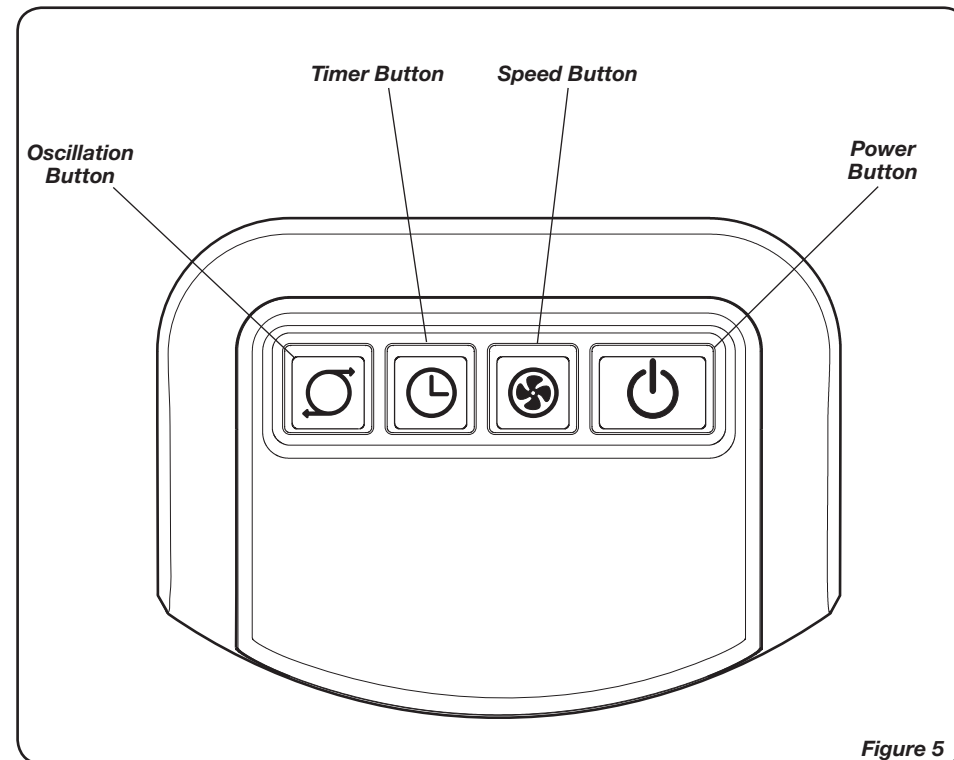
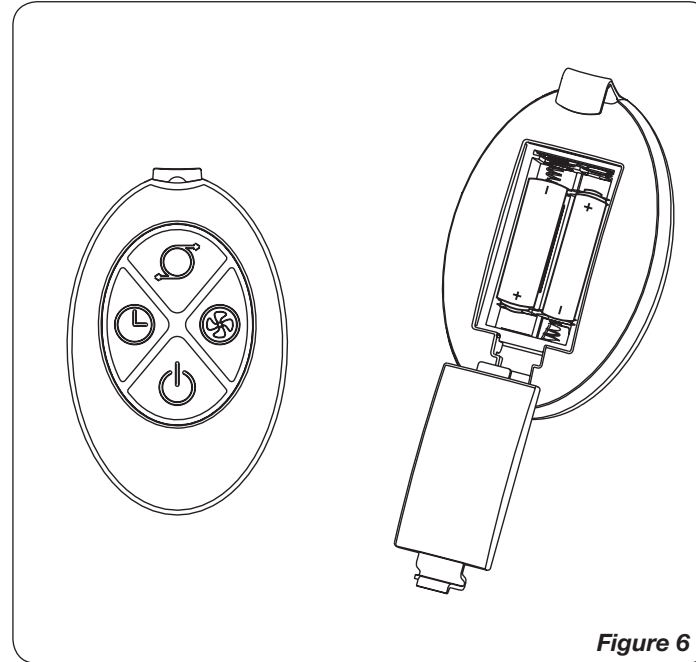

Figure 5
Figure 6
OPERATION (Figures 5 and 6)
This Fan may be operated by the Manual Controls located on top of the unit (as shown in **Figure 5**) or by the Remote Control (shown in **Figure 6**).
REMOTE CONTROL (Figures 6 and 7)
1. Install batteries (not supplied) as shown in *Figure 6*. The battery is size "AAA".